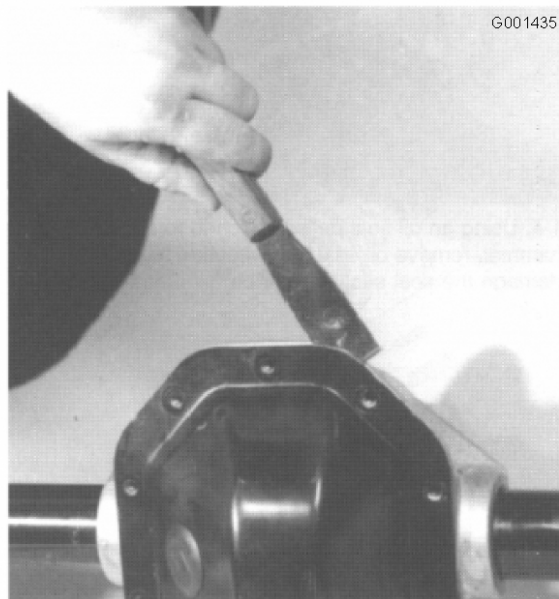

Figure 7
3. Use a putty knife to separate the cover plate from the housing (Figure 7). Discard the cover plate and old gasket.